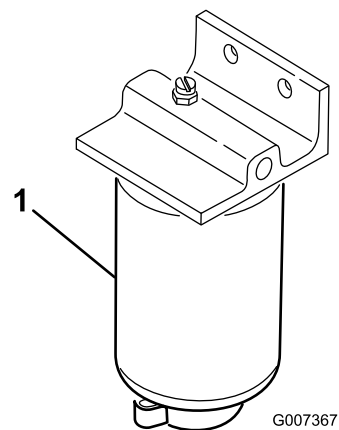

Figure 54
Drain the water or other contaminants from the water separator (Figure 54) daily. Replace the filter canister after every 400 operating hours.
2. Loosen the drain plug on the bottom of the filter canister (Figure 54).